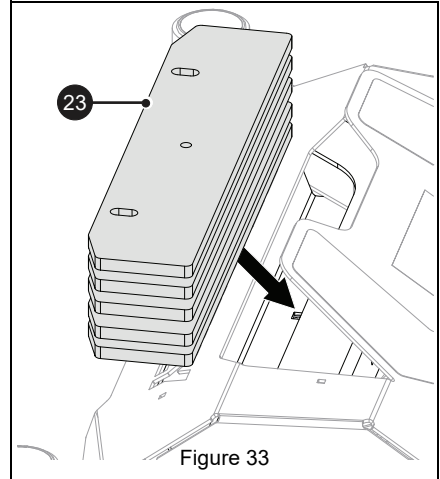

Figure 33
4. Insert five counter weight plates (item 23) into frame crossmember pocket and align mounting holes with holes in frame crossmember. Plates are positioned with angled corners facing forward. See Figure 33.